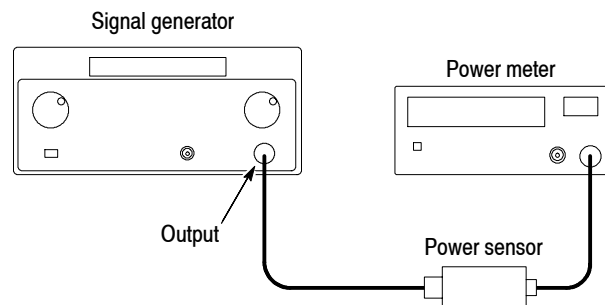

Figure 4-11: Hookup for setting the signal generator output
- a. *Hook up the instruments:* Connect the signal generator (Item 1) output through a 50 Ω N-N coaxial cable to the power sensor input. See Figure 4-11.
- a. *Hook up the test equipment:* Connect the signal generator output through a 50 Ω N-N coaxial cable to the power sensor input. See Figure 4-11 on page 4-25.